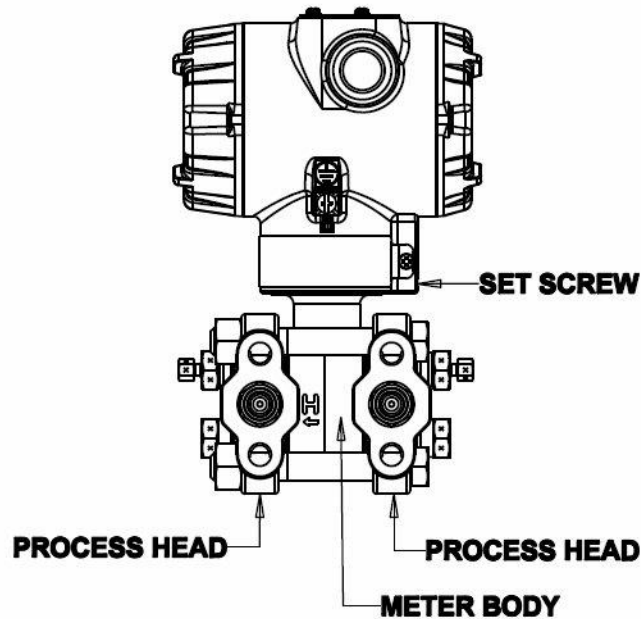

Figure 26 – ST 700 Standard Transmitter - Hardware Location to Remove the Meter Assembly
8. Refer to Figure 26. Use a 2mm hex wrench to completely loosen the set screw on the outside of the housing to permit rotating the meter body.